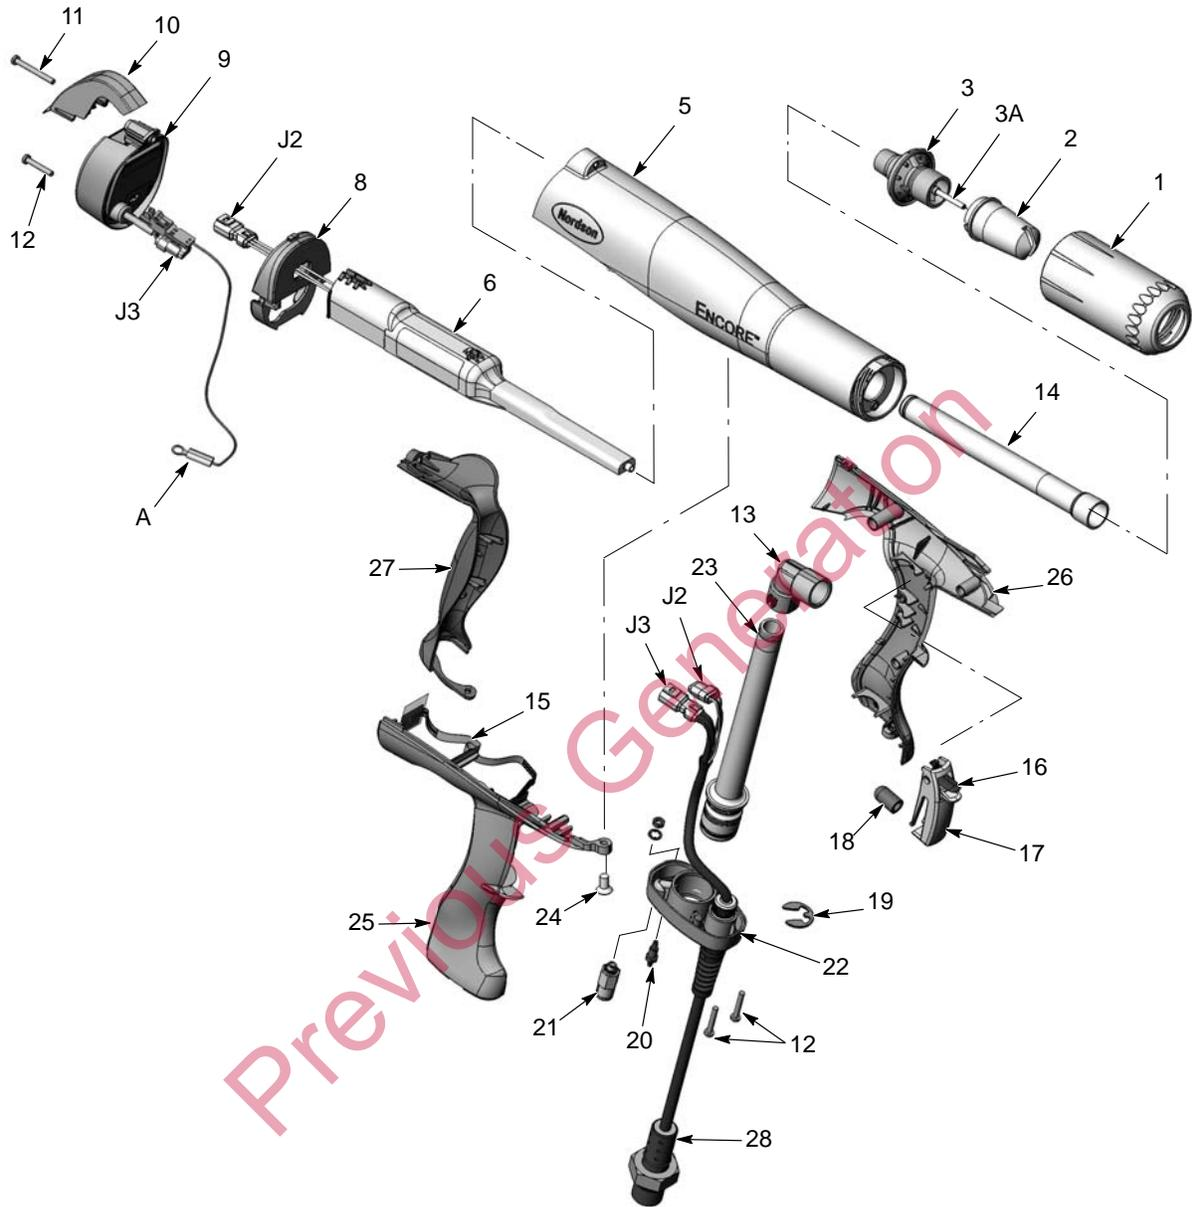
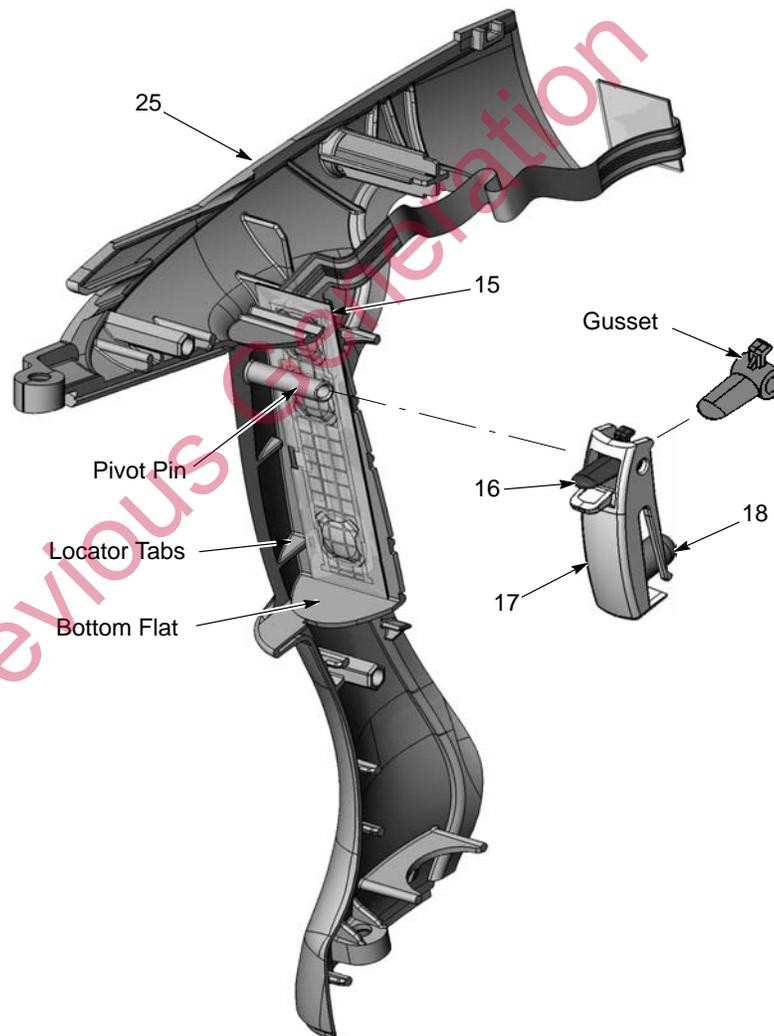

Figure 5-3 Exploded View of Spray Gun (Numbering is same as parts list)
Figure 5-10 Trigger Switch and Trigger Mounting
See Figures 5-3, 5-4, and the figures accompanying the disassembly steps.
**NOTE:** New display modules include a separate ground cable with a connector on the module end and a ring-tong terminal on the other. This cable must be securely connected to the barbed fitting (20).
2. Install the dual barbed fitting (20) into the base and slip the gun cable and display module ground terminals over the fitting. Install the internal-toothed lockwasher and nut on the fitting and tighten the nut.
3. If the check valve (21, Fig. 5-3) was removed, thread it into the base. Do not overtighten the valve.
4. Install the inlet tube with O-rings installed (23) into the handle base (22).
5. See Figure 5-10. If removed, install the trigger switch (15) on the mounting flat of the right handle (25), up against the tabs and bottom flat. Press firmly on the switch to secure it in place.
6. Assemble the actuator (18) on the main trigger (17) boss. Note the orientation of the settings trigger (16) gusset, then insert it into the main trigger. Align the pivot holes in the triggers then slide the triggers over the trigger pivot pin on the right handle half.